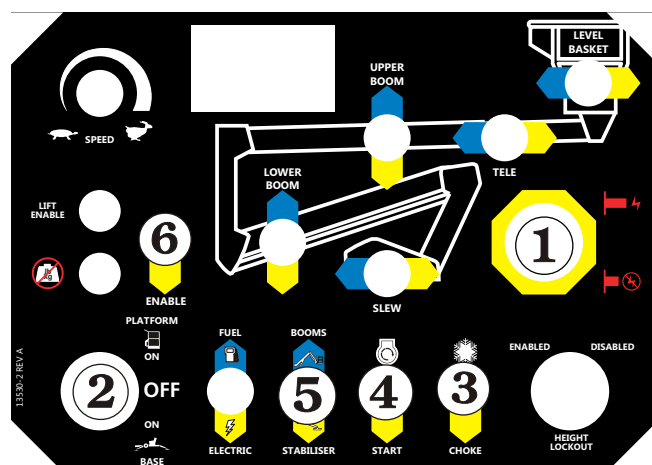

Figure 8.7 - Ground Control Box Starting
Ensure the Boom/Stabiliser Switch (item ⑤ on the ground control box) (see Figure 8.7) is set to stabiliser.
1. Set the **Emergency Stop** switch **1** to ON (see Figure 8.7).
2. Insert the key and set the **Platform/Ground Selector** switch **2** to GROUND (see Figure 8.7).
- If the engine is at ambient temperature (cold), hold the **Choke / Cold Start Switch** ③ (see Figure 8.7) down throughout the next step.
- Press down on the **Start Switch** and hold it there until the engine starts or for a maximum time of 6 seconds. When the engine starts release the start switch ④ and the choke switch ③, if you used it (see Figure 8.7).
- Press down on the **Start Switch** and hold it there until the engine starts or for a maximum time of 6 seconds. When the engine starts release the start switch ⑦ and the choke switch ⑥, if you used it (see Figure 8.7).